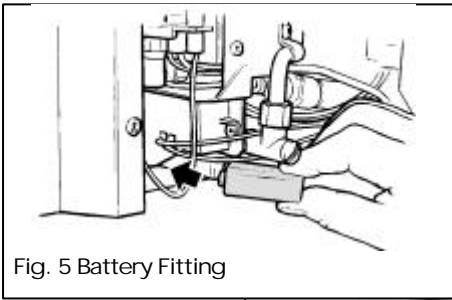

Fig. 5 Battery Fitting
3.1.1 Fit the battery to the ignition block located below the burner tray at the left side (see figure 5). The positive terminal (+) is to the right as you insert.